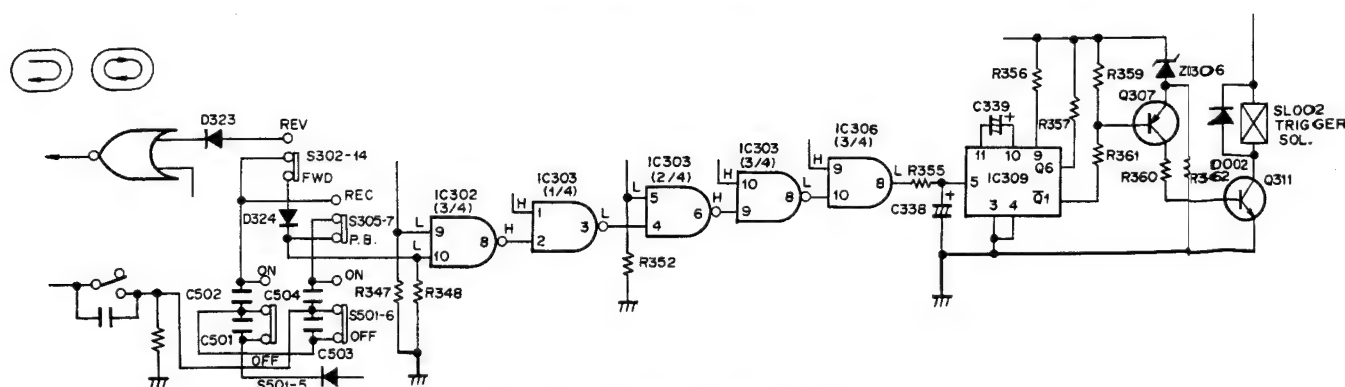

Fig. 7-10 ⊕ POS, ⊖ POS circuit
##### • ⊃ POS (Fig. 7-10)
● ⊖ POS (Fig. 7-10)
- The solenoid activation circuit is shown in Figure 7-10. The Q306 base is connected through R339 to the TTL IC (IC305) No.2 pin.